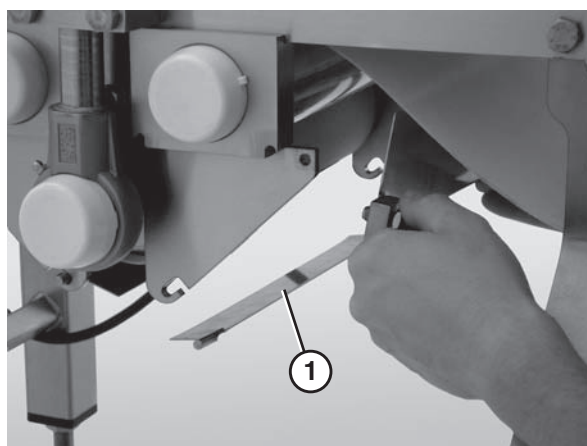

Figure 43
3. Lift up on the center drive guard (**Figure 43, item 1**) and remove it.